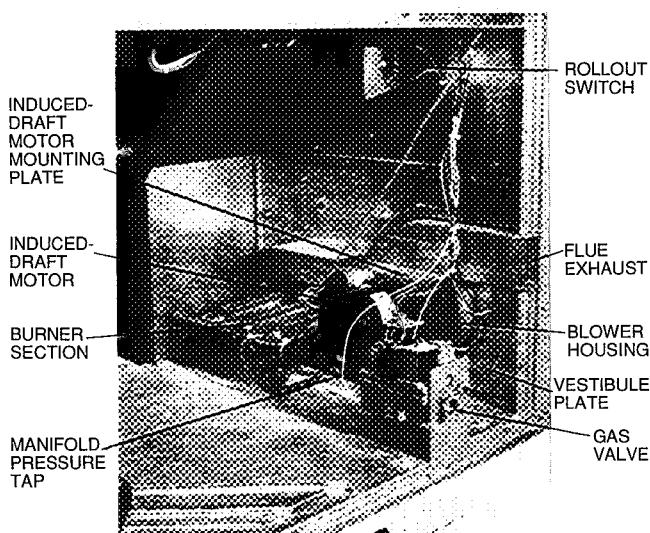

Fig. 38 — Burner Section Details
2. Remove the 7 screws that attach induced-draft motor housing to vestibule plate (Fig. 38).
REMOVAL AND REPLACEMENT OF GAS TRAIN (Fig. 38 and 39)